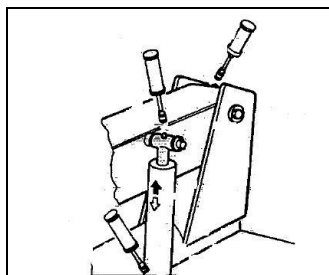
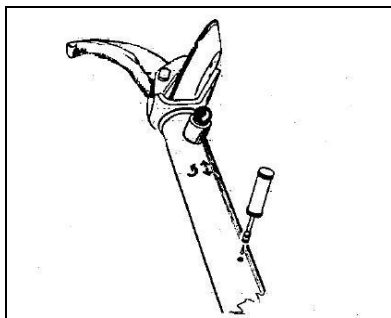

Fig.8.1
Fig.8.2
- 2) Grease the spindle bracket lift cylinder from time to time and also its swivel. Add the grease through the grease nipples (See Fig.8.1) using ordinary lubricating grease. In the same way, grease the tool holder arm cylinder (See Fig.8.2).